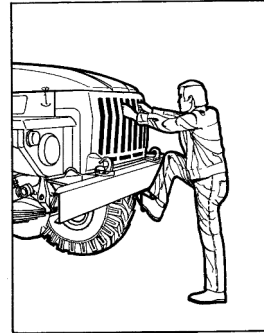

Fig. 4. How to Use Step and Radia -
7. To climb the truck bumper and come down from it use the step, the central and extreme left ribs (in the direction of the truck travel) of the radiator grill, which have inserts on the inside (Fig. 4).